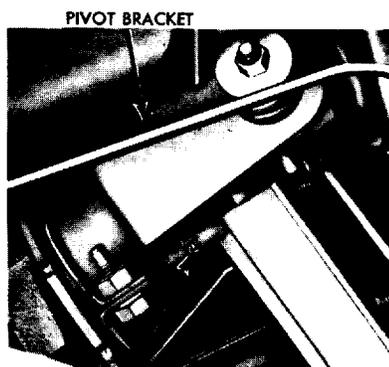

FIG. 6—Movable Column—Lower End
2. Remove the pivot bracket clamp bolts (Fig. 6), remove the pivot
3. Remove the cotter pin and the steering shaft retainer pin (Fig. 6).